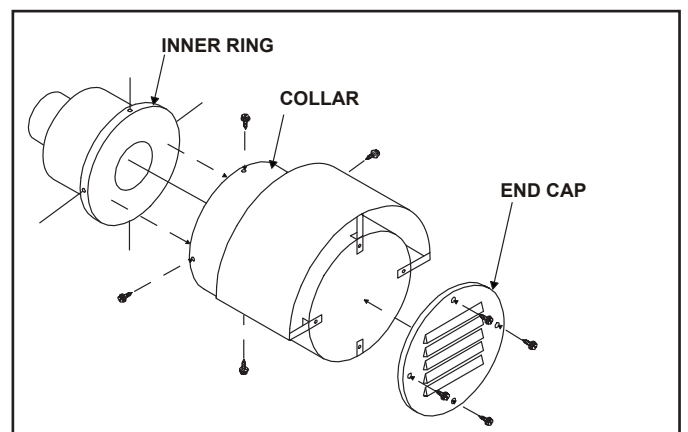

Figure 4.47
C. Fasten the wire mesh to the 10-1/2" collar to cover the exhaust port hole, using (4) sheet metal screws.
D. Slide the inner ring inside the cap assembly, carefully positioning the inner ring to its original orientation. See Figure 4.47. Carefully align the screw holes on the 10-1/2" diameter collar and the inner ring.